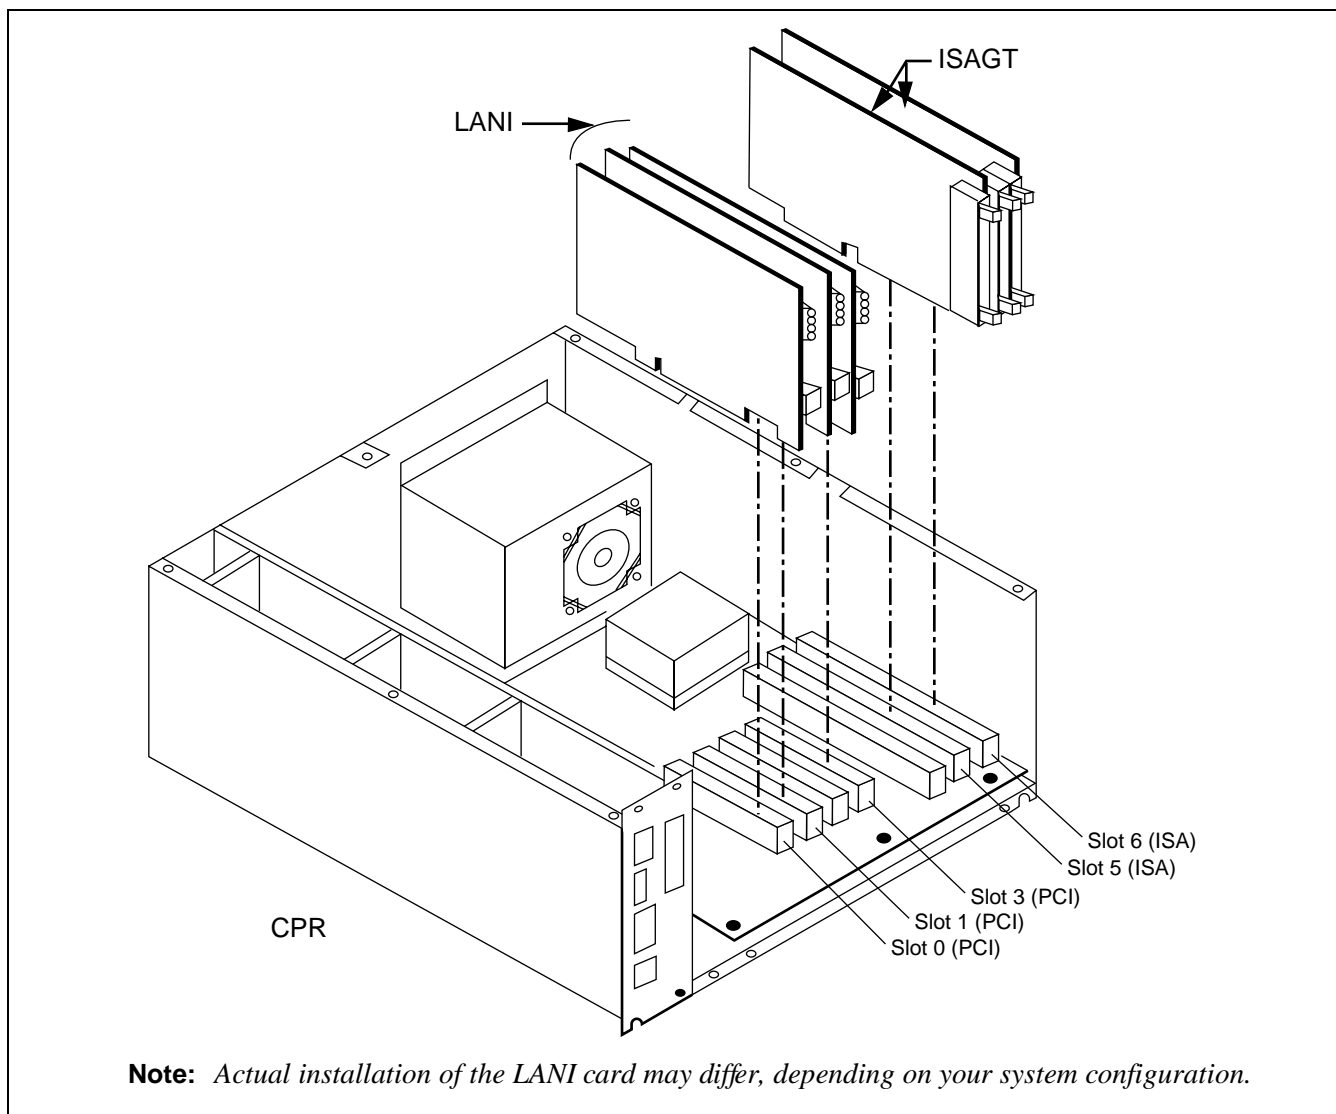

Figure 4-5 Insertion of ISAGT and LANI Cards
- (2) Insert the ISAGT (PZ-GT13/PZ-GT20) and LANI (PZ-PC19) cards into the following slots of the new CPR (refer to Figure 4-5):
Figure 4-5 shows how to insert the ISAGT and LANI cards into the PCI slots 5 and 6, 0 and 1 and 3 of the CPR, respectively.